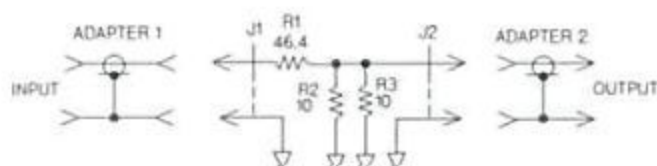

Figure 5-1
The Impedance Matching Network requires no periodic maintenance. If servicing is required, refer to the schematic diagram in figure 5-1 on page 17 of this manual.
2. Solder two SMC right angle pc board connectors (HP part number 1250-0836) together as shown in figures 5-1 and 5-3.